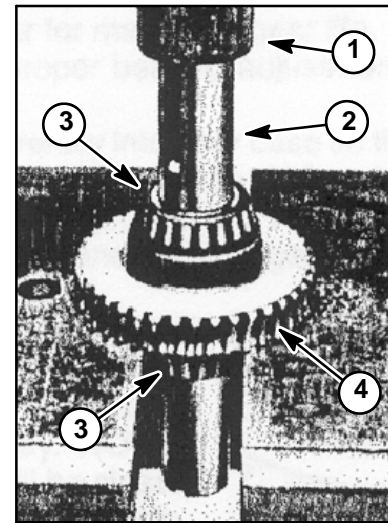

Figure 21
10. If worm gear (item 3) and bearing cones (item 2) are to be removed from output shaft, support bottom side of gear and press shaft down through one bearing cone and gear (Fig. 21). Remove key from shaft. Second bearing cone can then be pressed from shaft.